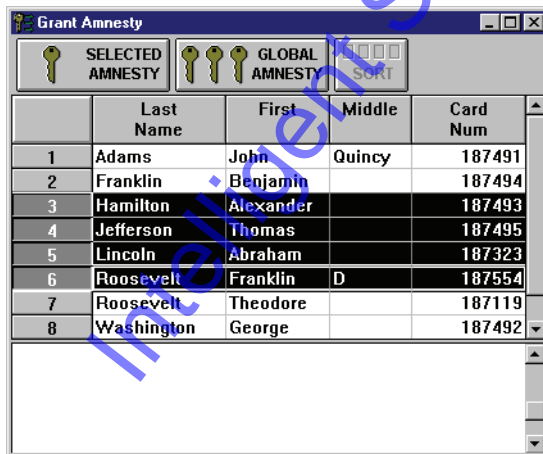

Figure 6-31: Sequentially Selected Multiple Users to Grant APB Amnesty
- If the desired users are in sequential order, click on the user’s name at the top of the list, hold down the “Shift” key, and click on the user’s name at the end of the list. All names from top to bottom become highlighted indicating they all have been selected. See Figure 6-31.